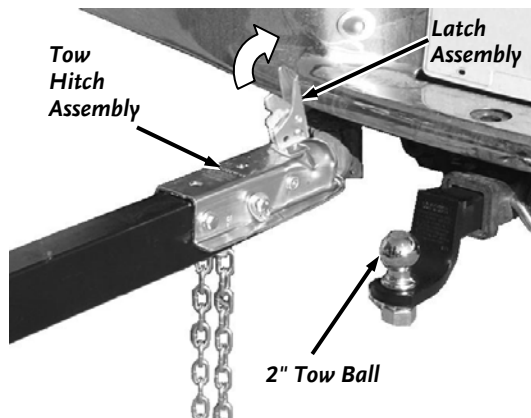

Figure 31
1. Pull the latch assembly on the Tow Hitch Assembly up and into the open position. Position the hitch coupler of the Chipper over and onto the tow vehicle's tow ball (must be a 2" tow ball) (**Figure 31**).